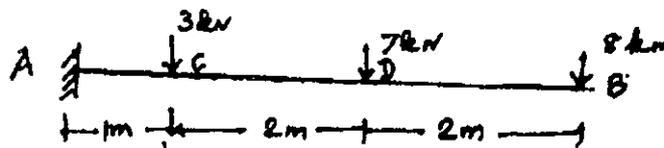

Fig. 6
- (b) By moment area method find the slope and deflection at 'D' for the beam shown in Fig. 6. (16)